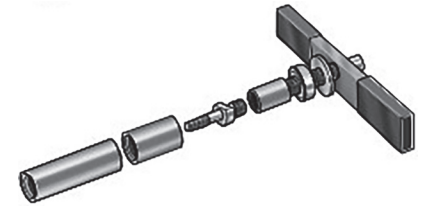

Figure 2. Sprocket Shaft Bearing Installer
3. Obtain the SPROCKET SHAFT TAPERED ROLLER BEARING CONE INSTALLER 7225-55B). See Figure 2.